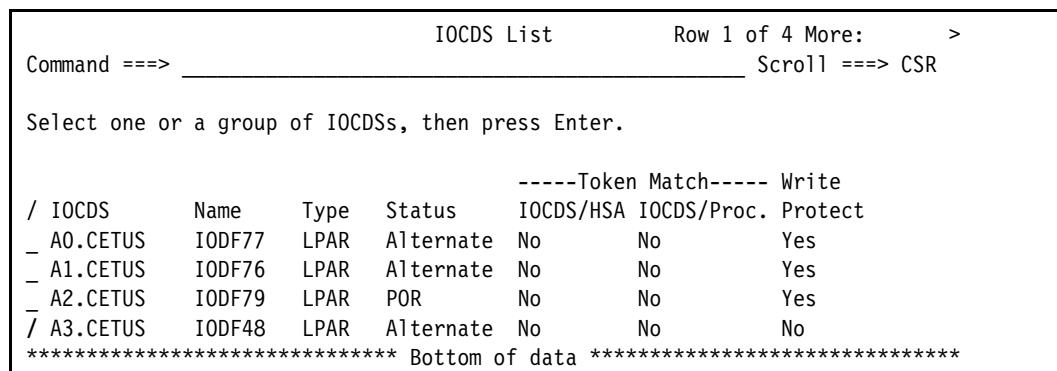

Figure 5-10 IOCDS List: Selecting IOCDS for replace
- The IOCDS List panel opens (Figure 5-10). Select the IOCDS that you want to update for the 2964 replacement by typing a forward slash (/) next to it, and then press **Enter**.